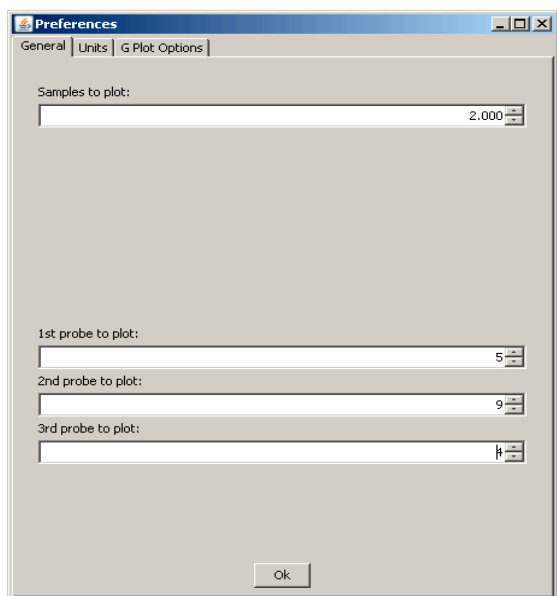
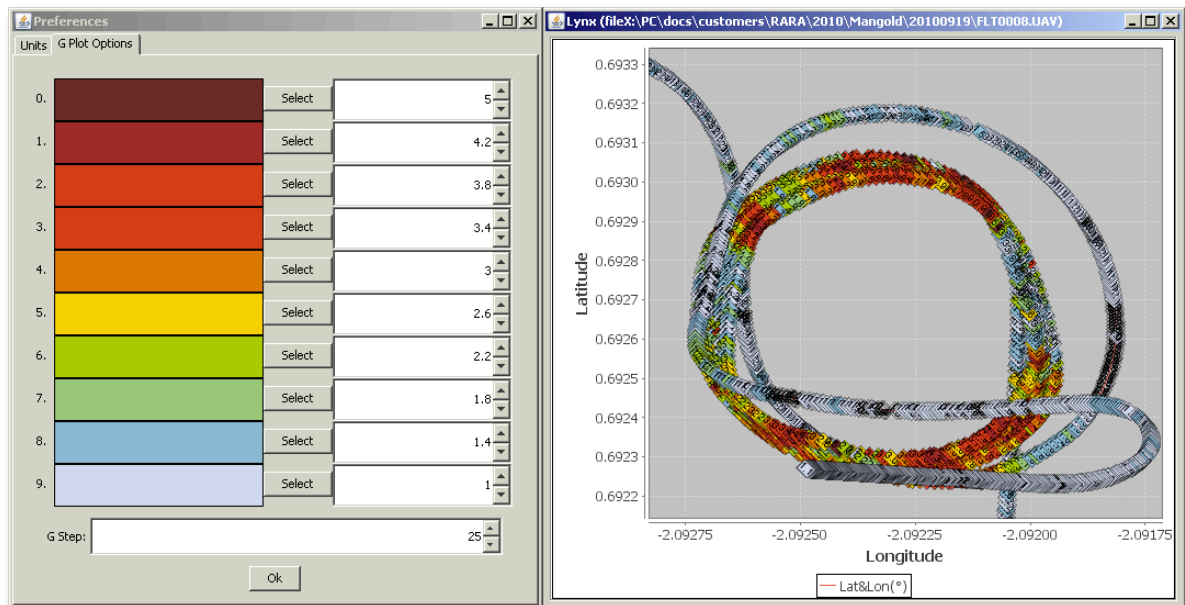

Figure 23
Figure 31
The different probes in AP04s go from 0-255 but only three will be possible for selection for space reasons. To select the probe values from those 256, click on the main program menu bar-> options item -> General tab, on the lower part of the panel (as shown in figure 23 next page).
- There is another spinner with the text G Step wich permits us to change the step between how many samples the overlays will be shown. In this way, the higher the number, the fewer the number of overlays. In the figure 31 stands that there will be one overlay each 25 samples of log file. Figure 23 has one overlay each 200 samples, and has been zoomed in to show the curves with more detail.